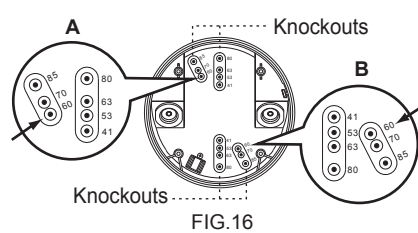

FIG.16
3.3.4.1 There are 7 pairs of knockouts with various distances from 41mm to 85mm on the bottom cover of the surface mount junction box which can be selected for different mounting applications (See FIG.16). To select two same figures on both ends for the corresponding fixing distance (See FIG.17).